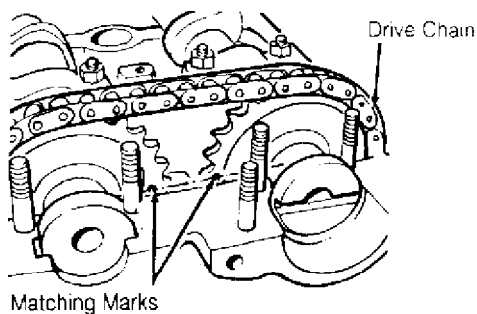

Fig. 14: Aligning Camshaft Gears & Drive Chain (16-Valve)
1) On engines with oil spray jets, position spray at right angle to camshaft. Place drive chain on both camshaft gears. Align matching marks on gears and place both camshafts in cylinder head. See Fig. 14.